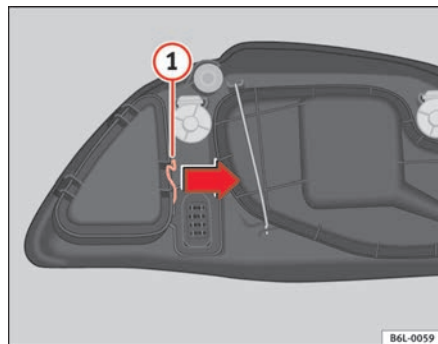

Fig. 148 Indicator lights
- Remove the loops (1) ⇒ fig. 148 in the direction of the arrow and remove the cover.